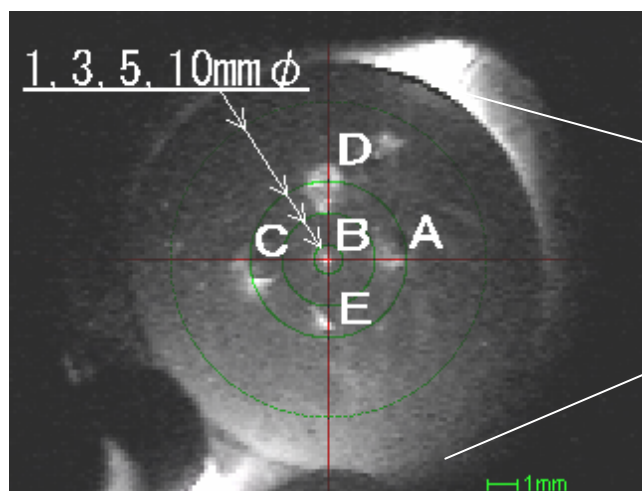

Fig.1 Picture of Foreign Matters by CCD
- (Refer to Fig.1)
Place the sample on the sample stage (see Fig. 2) and start the CCD image viewing software in Windows. An image like that shown in Fig. 1 will be displayed on the CRT. Fix the position by moving the sample so that the object of measurement is under the point where the crosshairs meet (Fig. 1 shows B as the object being measured).